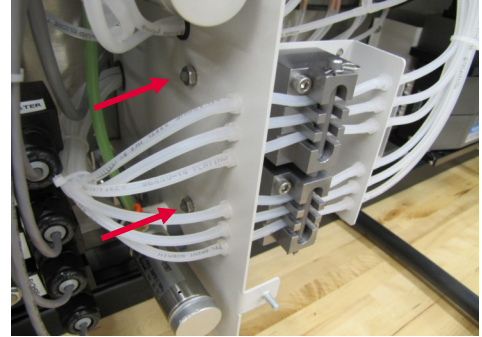

Figure 7
3. Using a $\frac{3}{8}$ " wrench or socket, remove the two nuts securing the Pinch Valve Assembly to the Gusset Panel. See Figure 7. Remove the Output Pinch Valve Assembly and replace with the new one. Secure it with the two nuts to the Gusset Panel. Install six new $3\frac{1}{4}$ " length 8229 Silicone Tubes in the Output Pinch Valve—refer to Service Procedure, SP-207, steps 1-9.